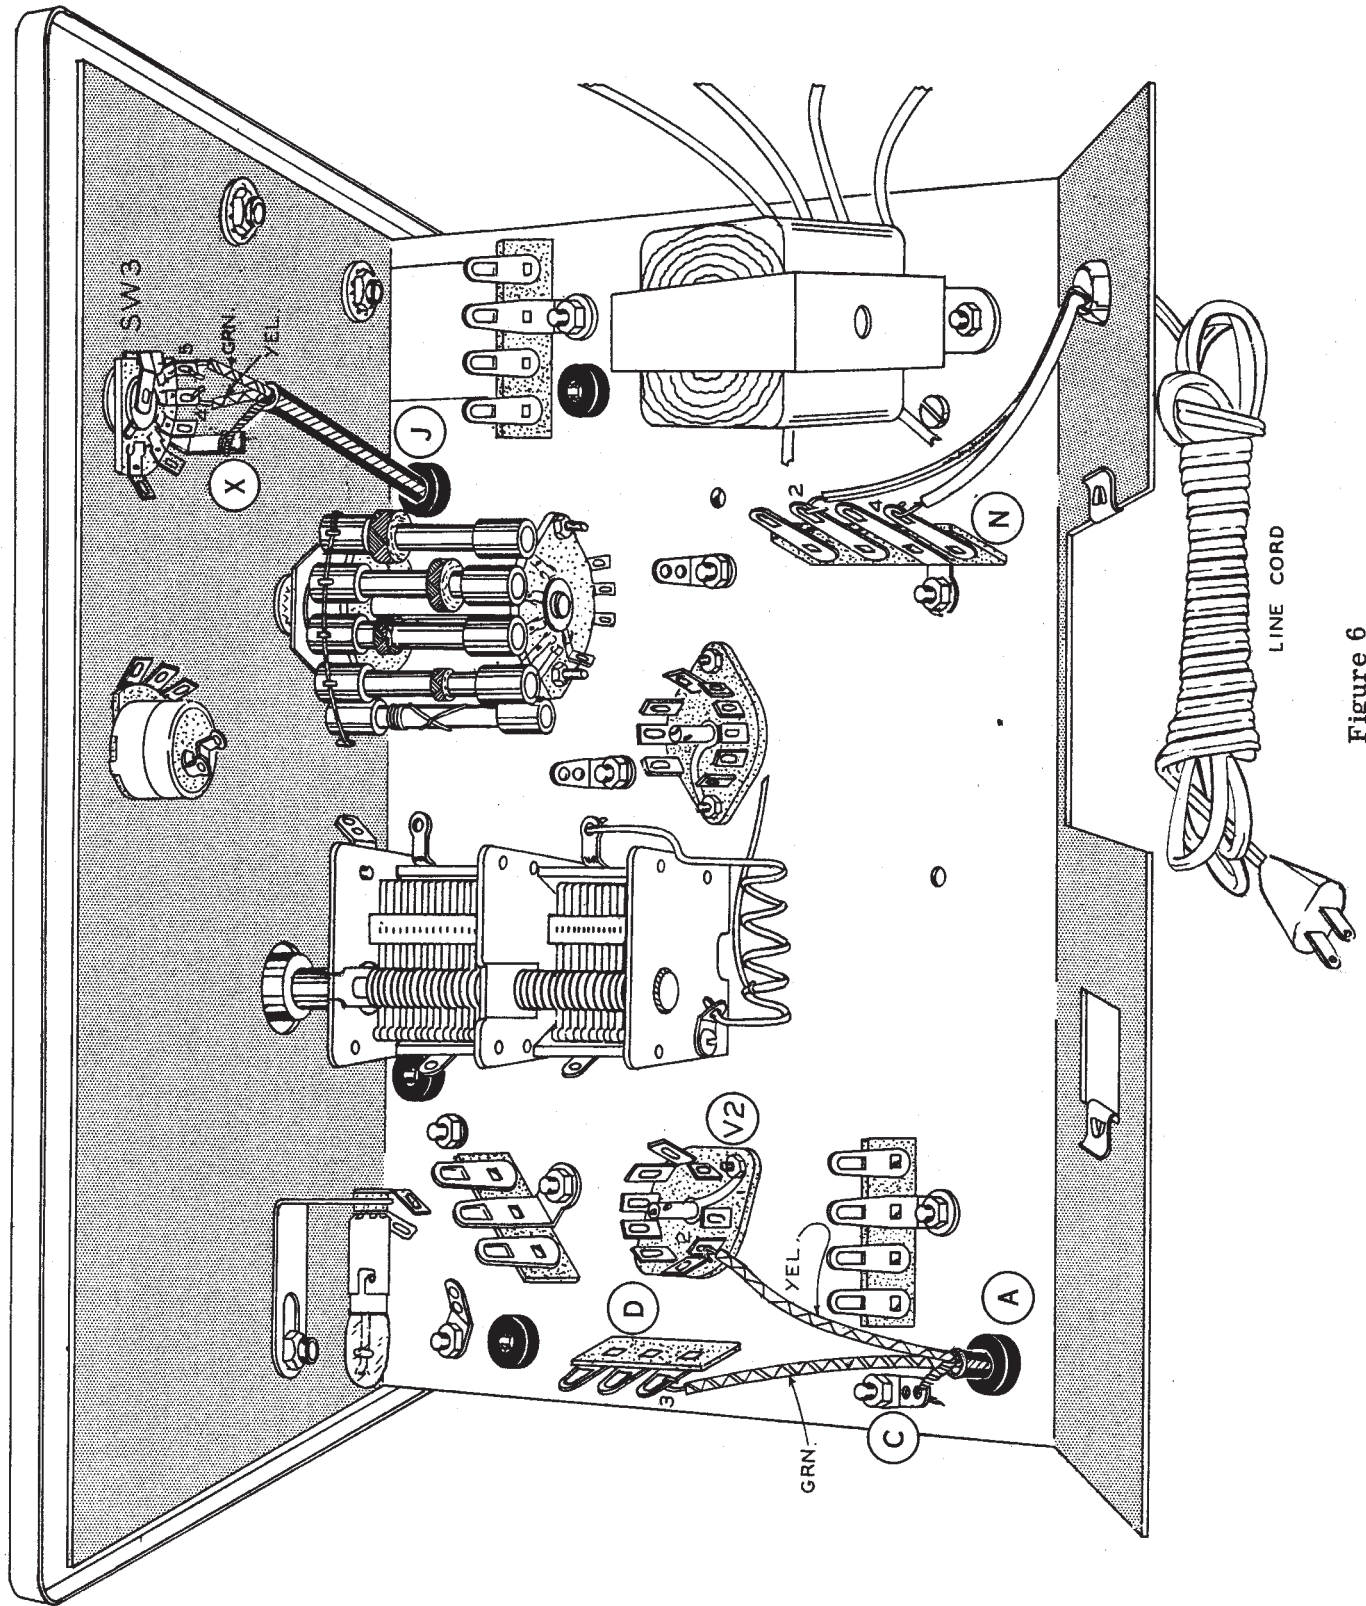

Figure 6
- ( ) Refer to Figure 6 and insert the end of the shielded cable with the shortest leads through grommet J, from the tube side of the chassis. Connect the yellow wire to lug 4 (S-1) and the green wire to lug 5 (S-1) of SW3. Connect the shield to solder lug X (S-2). Insert the other end of the cable through grommet A. Connect the yellow wire to pin 2 (S-2) of V2, the green wire to lug 3 (S-2) of terminal strip D and the shield to ground lug C (S-1).